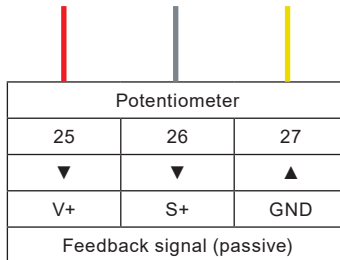

Fig. 14 Potentiometer Terminal Diagram
- Connect the wiring harness to the terminals as detailed in Figure 14 Potentiometer Terminal Diagram